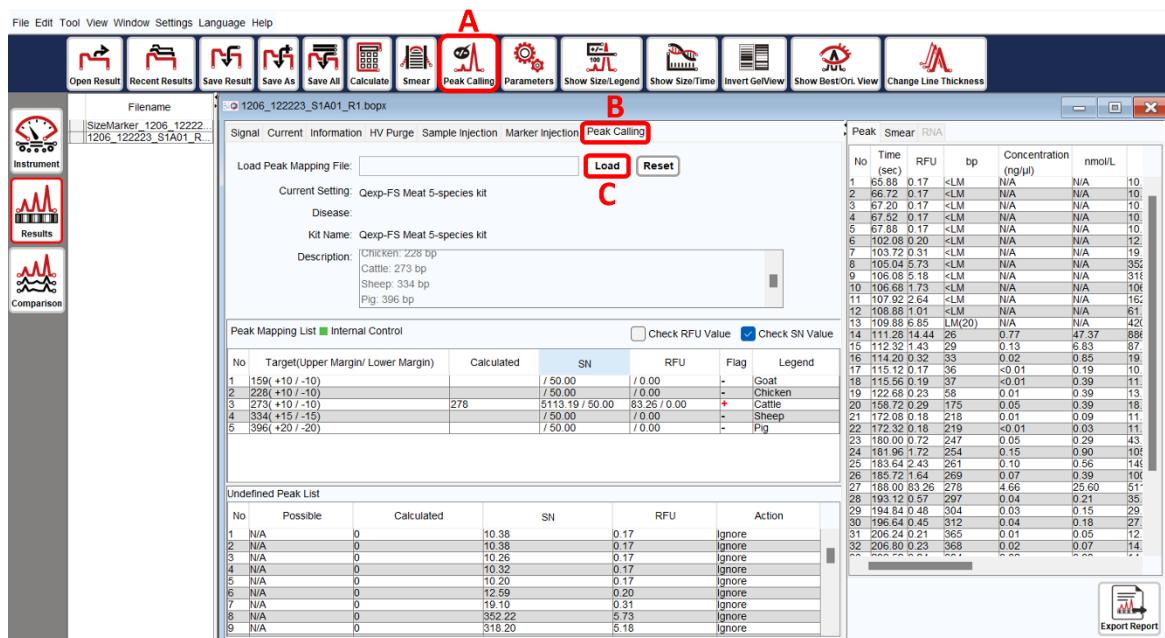

Figure 52 Fragment Size Calculation and Peak Calling Selection
4. Return to the result files, calculate the fragment size, and select the **Peak calling** tab or click **Tool → Peak Calling** (Figure 52 A-B).
5. Browse and load the desired Peak Calling Table file (Figure 52 C).